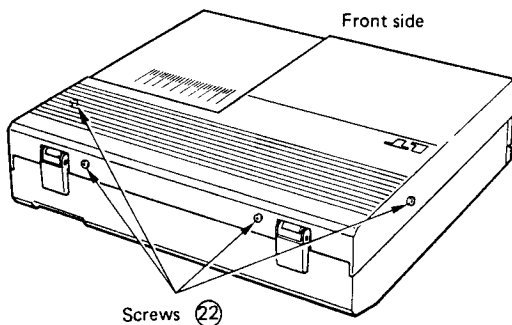

Fig. 17
- 1) The dust cover can be removed by removing the four dust cover fixing screws (22) as shown in Fig. 17.